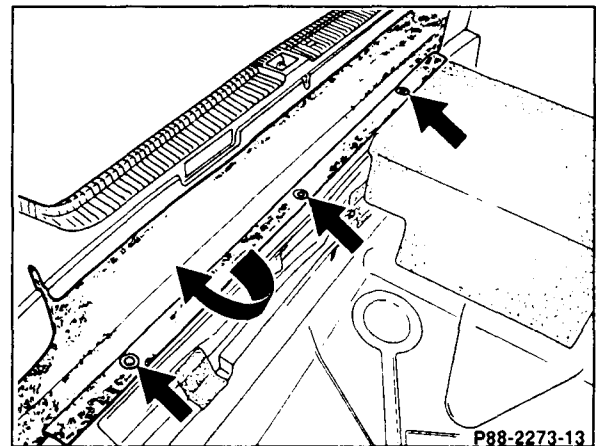

Figure 12
2. Remove rivets (arrows, Figure 12).